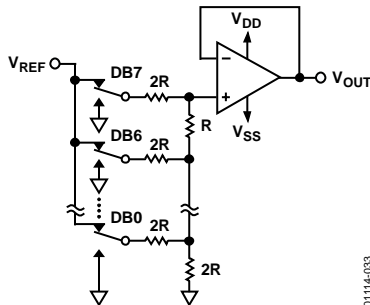

Figure 33. Typical Equivalent DAC Channel
Each part contains four voltage-switched R-2R ladder DACs. Figure 33 shows a typical equivalent DAC. These DACs are designed to operate both single-supply or dual-supply, depending on whether the user supplies a negative voltage on the  $V_{SS}$  pin. In a single-supply application, the  $V_{SS}$  is tied to ground. In either mode, the DAC output voltage is determined by the  $V_{REF}$  input voltage and the digital data (D) loaded into the corresponding DAC register according to Equation 1.